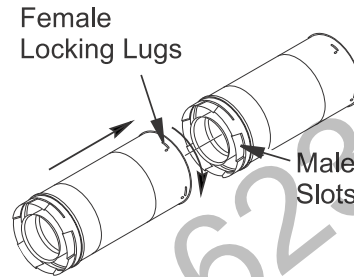

Figure 8 - Vent Pipe Connections
Twist-Lock Procedure: Female ends of pipes have locking lugs (indentations). These lugs will slide straight into matching slots on male ends of adjacent pipes. Push pipe sections together and twist one section clockwise approximately one-quarter turn until sections are fully locked (see Figure 8).
2. Assemble desired lengths of pipe and elbows necessary to reach from fireplace flue up through firestop. Be sure all pipe and elbow connections are fully twist-locked (see Figure 8, page 12).